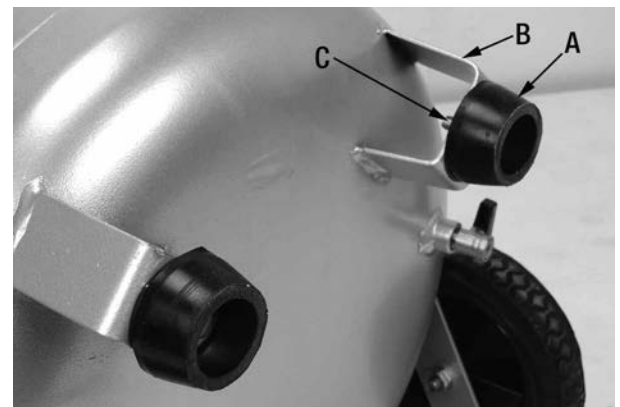

FIGURE 5
3. Then install both rubber feet (A) Fig.5 to the brackets (B) under the tank using a washer and hex. nut (C). Reposition the compressor in the upright position.